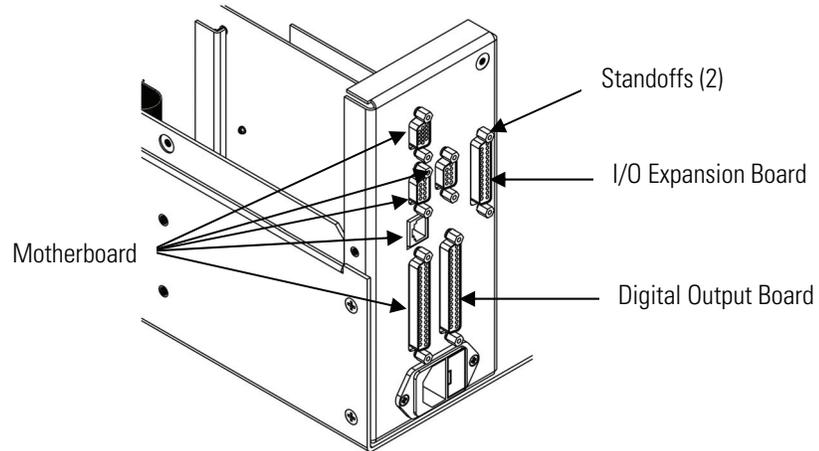

Figure 7-12. Rear Panel Board Connectors
3. Remove the two standoffs holding the I/O expansion board connector to the rear panel (**Figure 7-12**).
4. Using the nut driver, remove the two standoffs securing the board to the rear panel (**Figure 7-12**).
5. Using the nut driver, remove the standoffs securing the board to the rear panel (**Figure 7-12**).